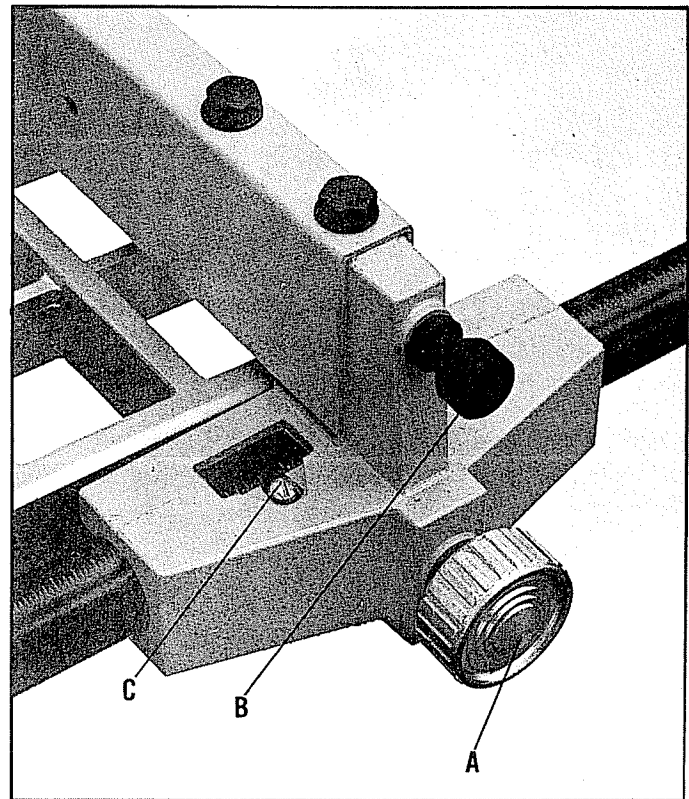

Fig. 17.
To move the rip fence, loosen both front lock knob (A), and rear lock knob (B) Fig. 17. The fence can then be moved rapidly to the approximate position.
If an adjustment to the pointer is necessary, loosen set screw (C) Fig. 17, move the pointer to the correct position and tighten set screw (C).